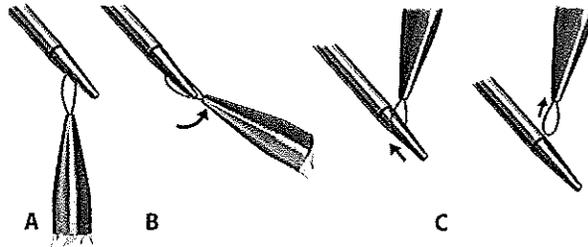

Figure 3: Association Loop Removal
9. Remove the association loop from the needle (see Figure 3).